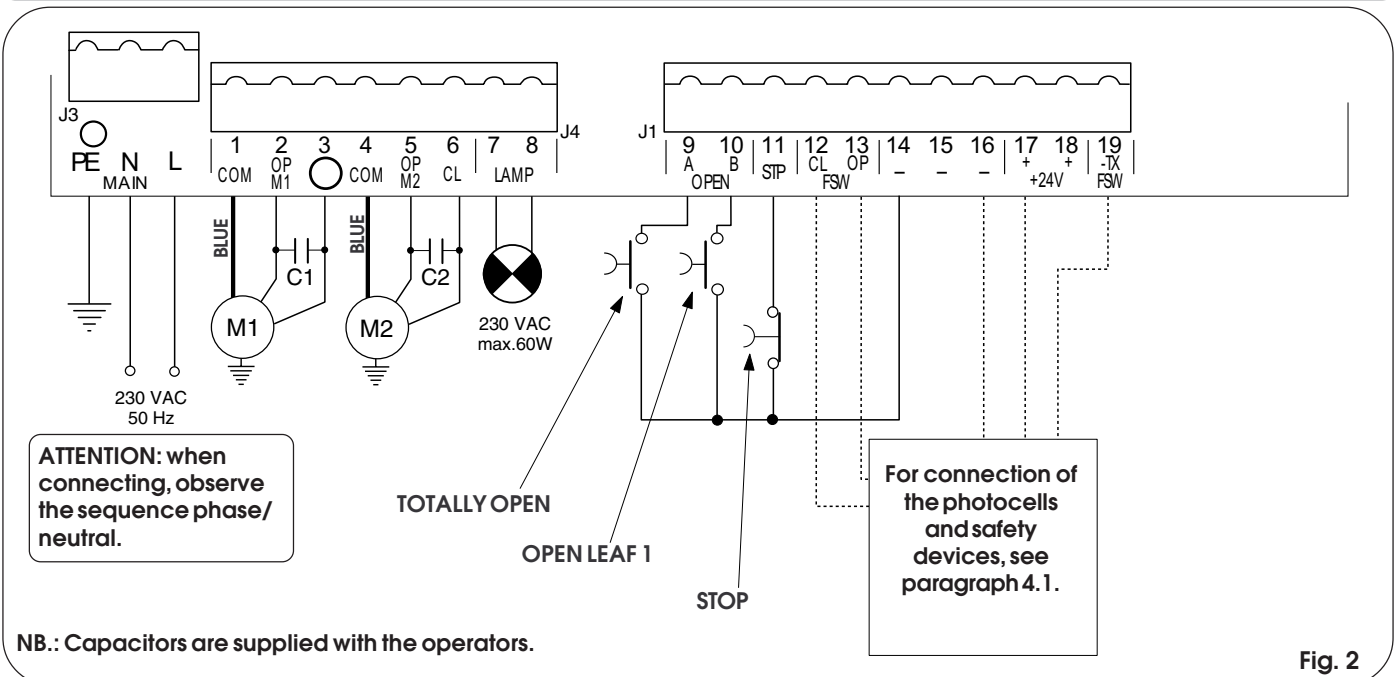

Fig. 2
- Connect the earth cable to the appropriate terminal on the J3 connector of the equipment (see fig.2).
4.2. Terminal board J3 - Power supply (fig. 2)
4.3. Terminal board J4 - Motors and flashing lamp (fig. 2)
4.4. Terminal board J1 - Accessories (fig. 2)